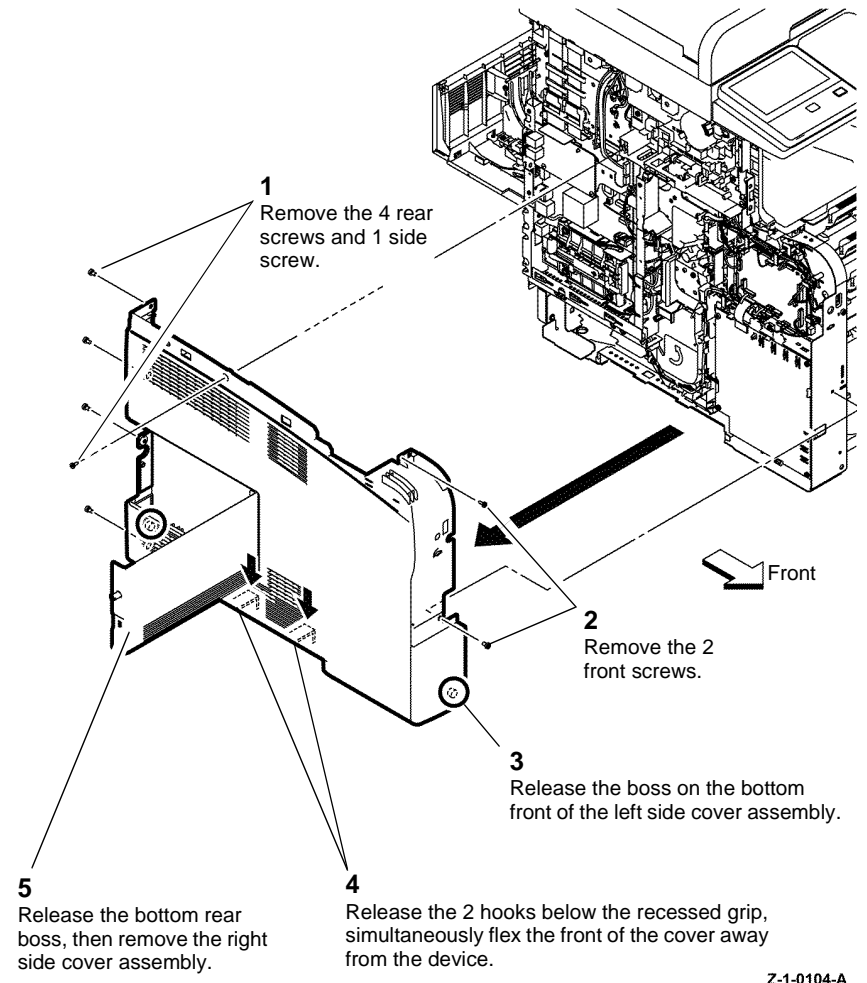

Figure 2 Remove the left side cover assembly C405
3. Remove the left side cover assembly, Figure 2.